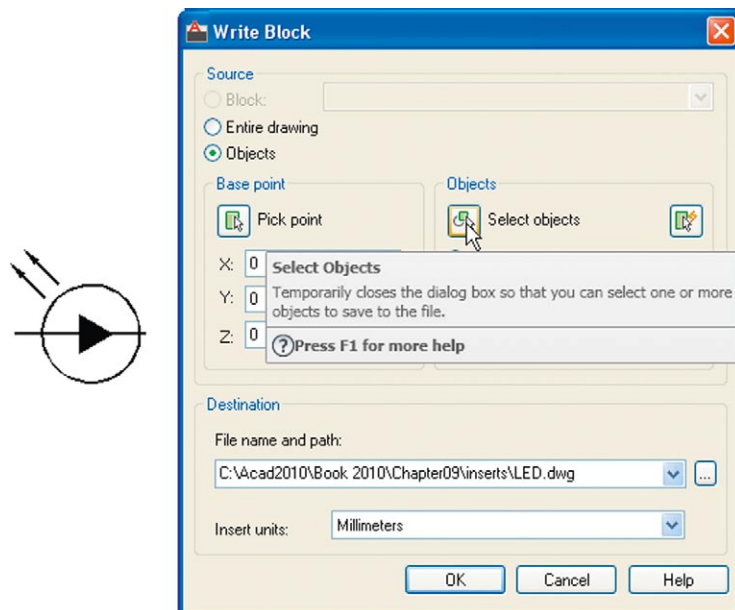

Fig. 9.19 Example – Wblock
Example – wblock (Fig. 9.19)
1. Construct a light emitting diode (LED) symbol and *enter w* at the command line. The **Write Block** dialog appears (Fig. 9.19).